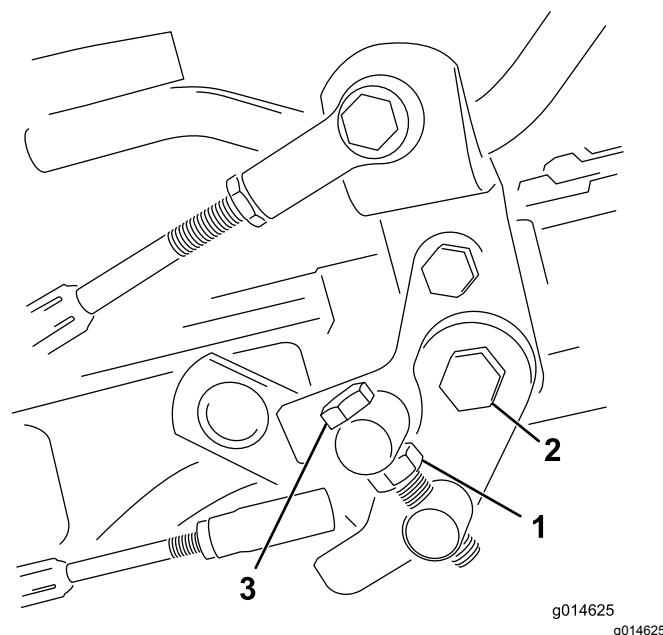

Figure 36
1. Loosen the jam nut on the trunnion bolt (Figure 36).
4. Tighten the jam nut on the trunnion bolt and the nut on the pedal pivot to lock the adjustment (Figure 36). Check the adjustment and adjust as required.